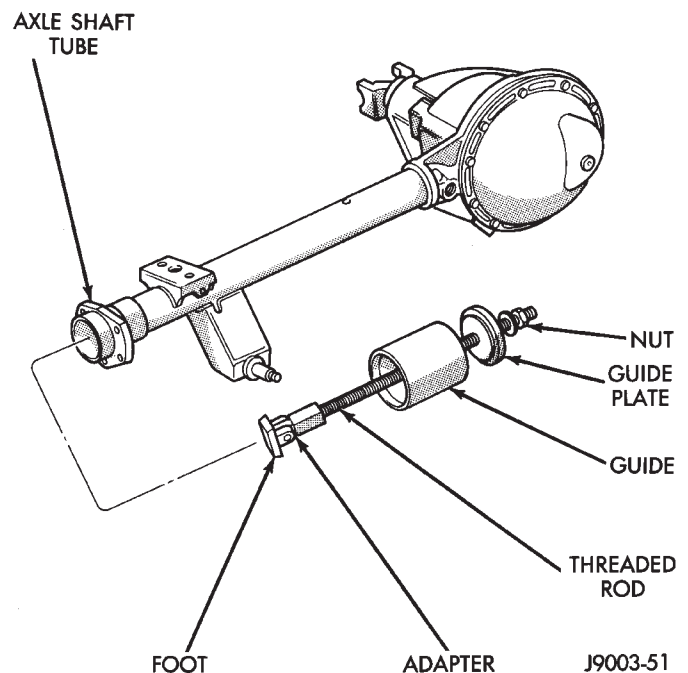

Fig. 25 Axle Shaft Bearing Removal Tool
(3) Remove the axle shaft bearing from the tube (Fig. 25) with Bearing Removal Tool Set 6310 using Adapter Foot 6310-5.